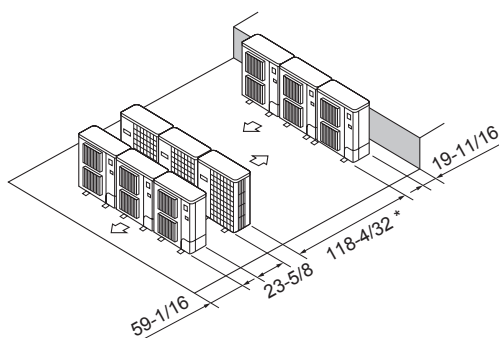

Fig. 2-16
⑥ Multiple parallel unit arrangement (Fig. 2-16)